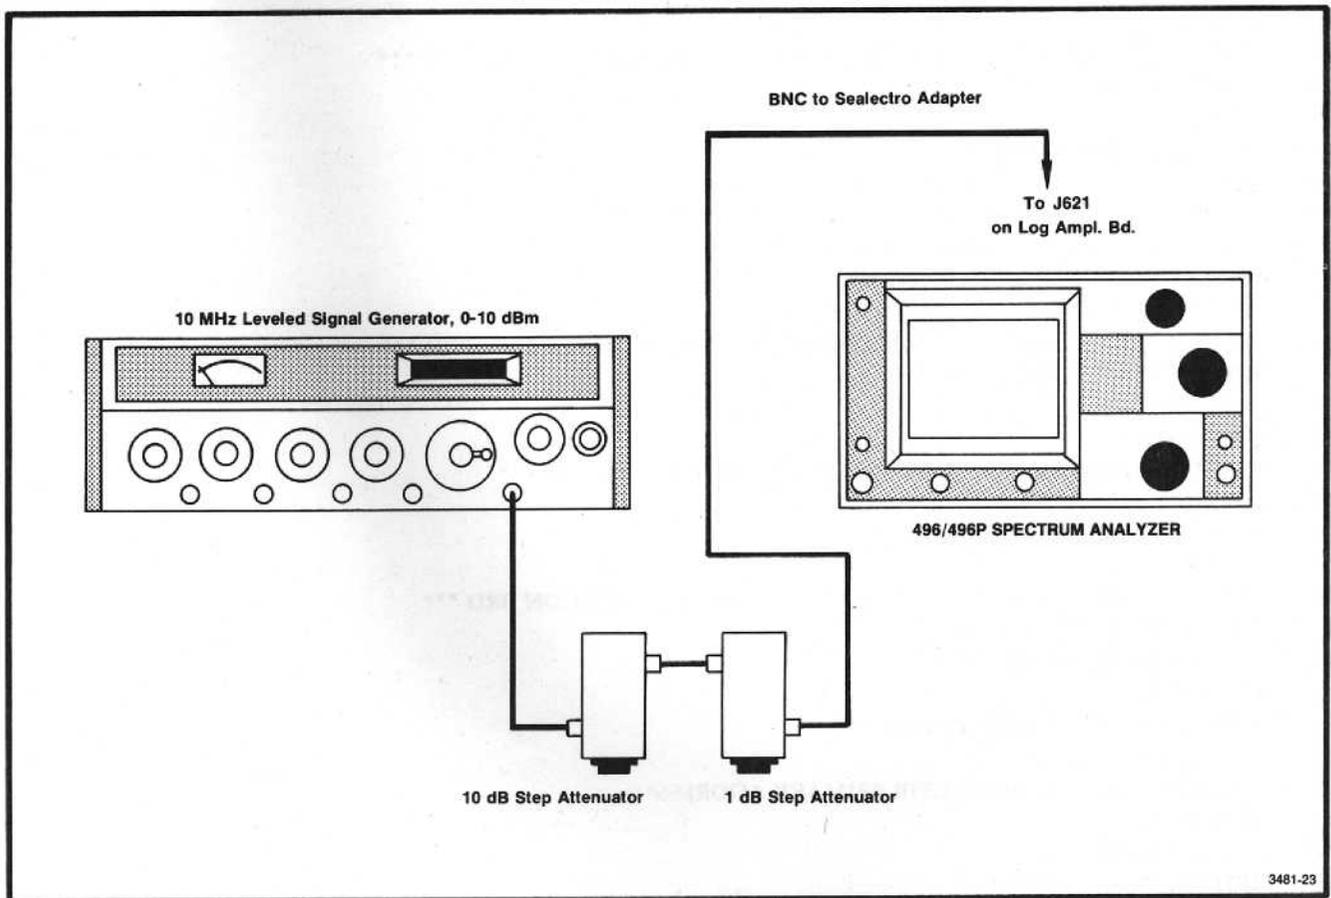

Fig. 3-34. Equipment setup for calibrating Log Amplifier.
a. Test equipment setup is shown in Fig. 3-34. Set the front-panel controls as follows: